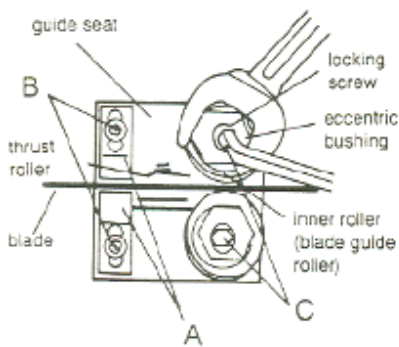

Fig 8
Loosen blade guides (A, Fig 8) by loosening screws (B). Slide blade guides away from the blade. (MBS-910 only).